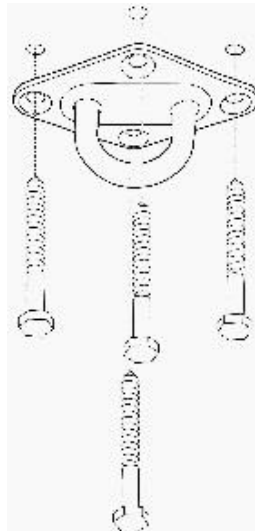

Figure 1
- (1) 1/8" (3.1mm) drill bit (1) Cordless Drill.
(2) PREPARE TO INSTALL YOUR BRACKET
- b. **LOCATE (Fig. 1)** a wood ceiling joist (beam) by using a stud finder (not included). The beam must be a solid, straight-grained structural joist. Do not use any joist that has signs (if visible) of wear, cracks, damage or old age. Generally, these beams are 16 to 18 inches (41 to 46cm) apart. Do not use dry wall alone.